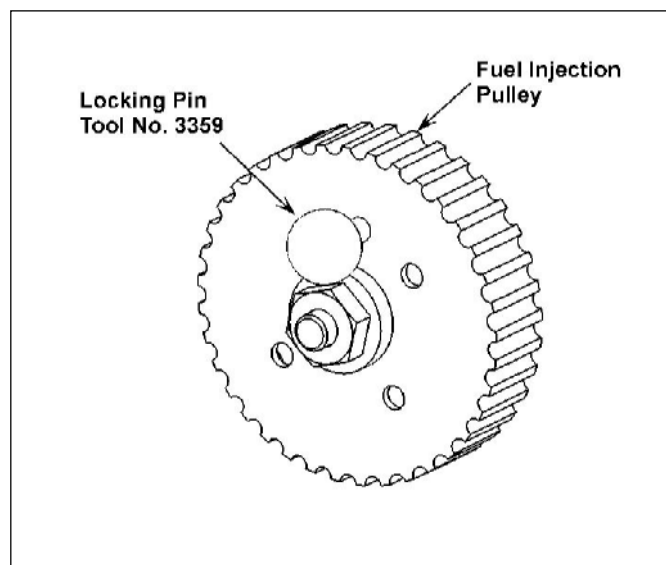

Fig. 6: Pin Required to Lock the Fuel Injection Pump Before Belt Removal
4. Insert locking pin tool No. 3359 in the fuel injection pump sprocket as per **Audi's guidelines, see Fig. 6.**